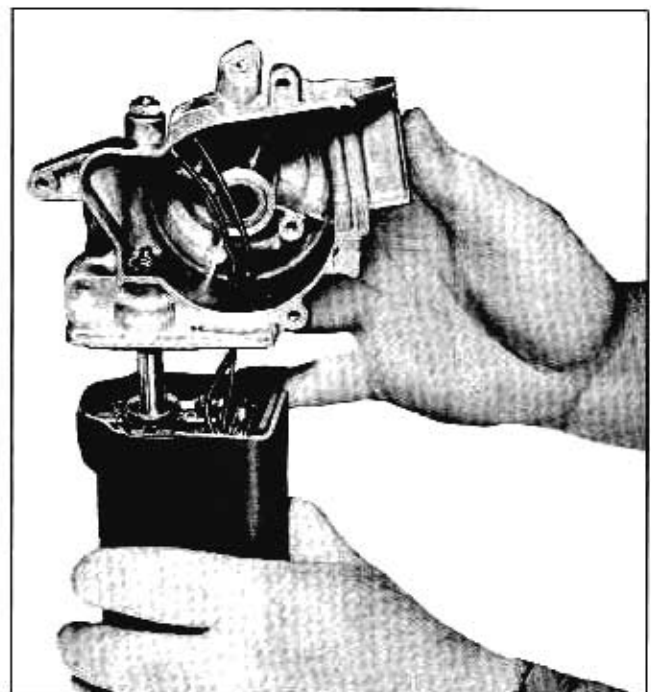

Fig. 11-61 Separating Gear Assembly and Motor
4. Holding the wiper (as shown in Fig. 11-61) lift gear assembly away from motor frame until it clears the armature worm.